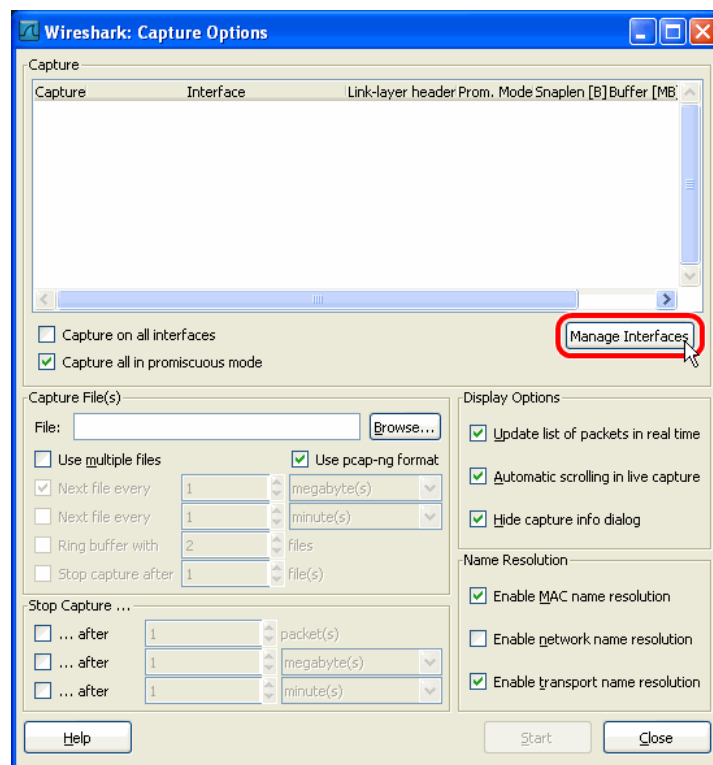

Figure 318: Wireshark Capture Options Dialog.
1. Open Wireshark and choose the menu **Capture → Options...** . This opens the **Capture Options** dialog as shown in Figure 318.